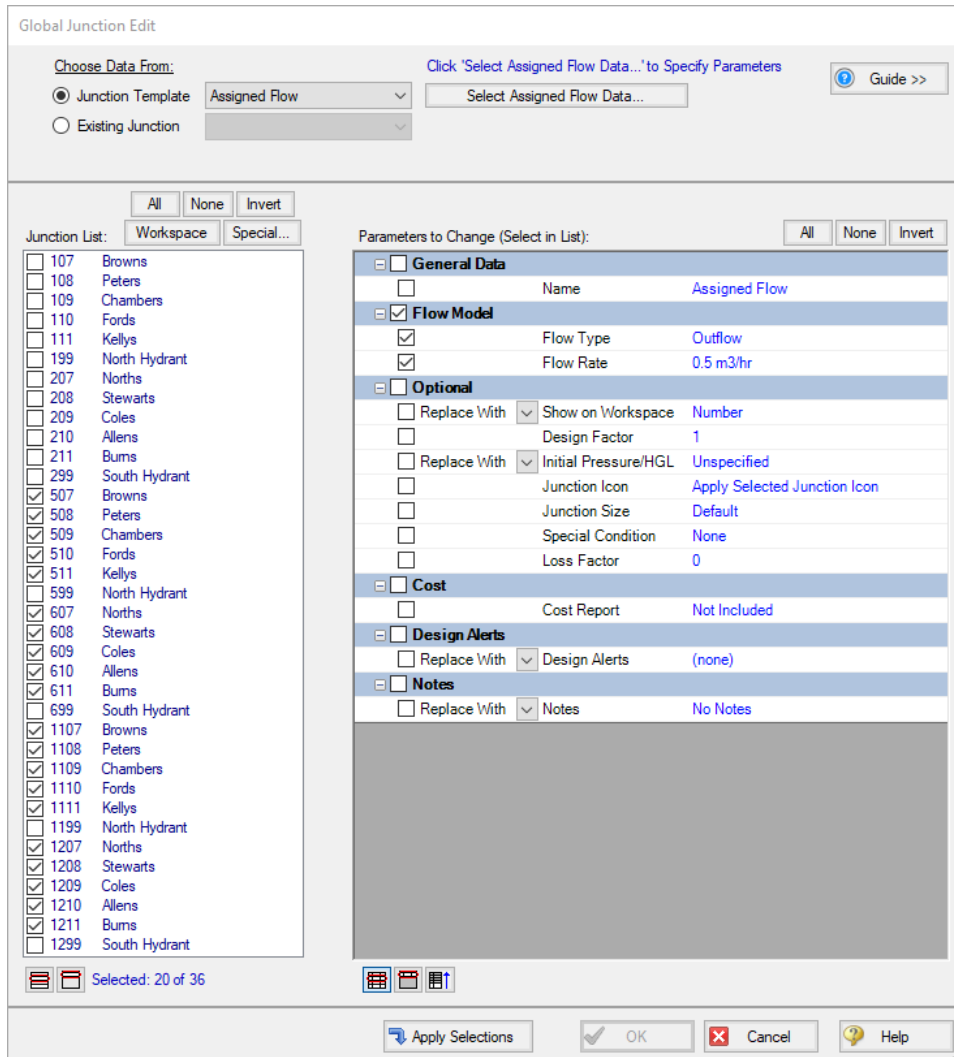

Figure 9: Global Junction Edit is used to change the flows in the homes for the dependent cases
8. Use **Global Junction Edit** to change all 20 of the Assigned Flow junctions at the Dependent Design Case homes (junctions 500's, 600's, 1100's, and 1200's) to an Outflow of **0.5 m³/hr** (see Figure 9). Make sure to not change the Assigned Flow junctions that represent the hydrants.